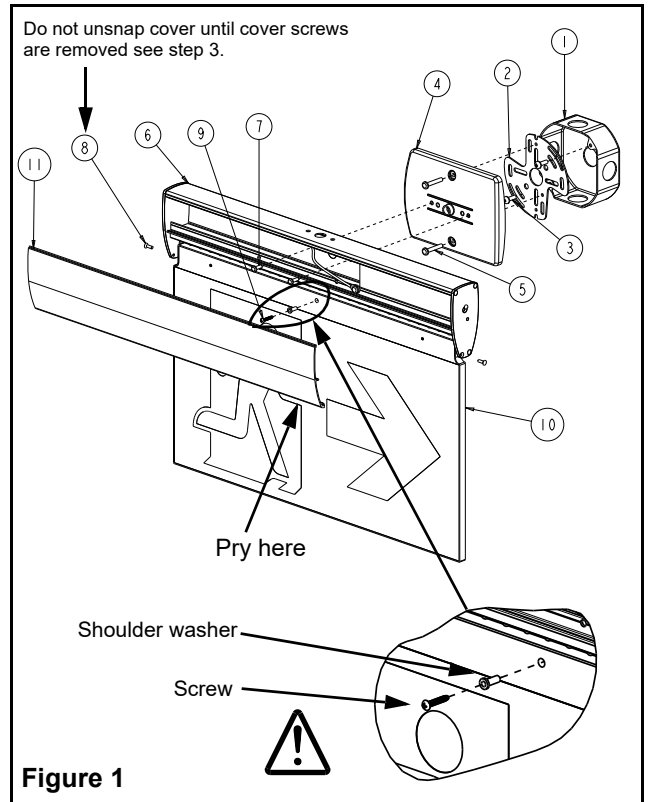

Figure 1
3. Remove the 2 bottom screws (8) from the cover front and set aside to reinstall later. (See Figure 1)
4. Manually unsnap cover (11) by lifting the bottom of the cover and remove.
Note: if the cover is too difficult to lift, use a flat head screw-driver to gently pry the cover at the point indicated in Figure 1.
Wall Mount (See Figure 1)
WARNING: Screw and shoulder washer (item 9 in Figures 1 & 2) must be installed to secure panel and prevent slippage during installation and maintenance. Front cover (11) must be secured using screws (8) (see step 10) except during installation or maintenance.